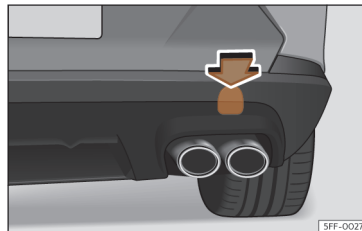

Fig. 46 On the right side of the rear bumper: remove the cover.
The housing of the screw towing eye is on the right side of the rear bumper behind a lid »» **Fig. 46**.
- Press the upper side of the lid»» **Fig. 46** to unclip it.